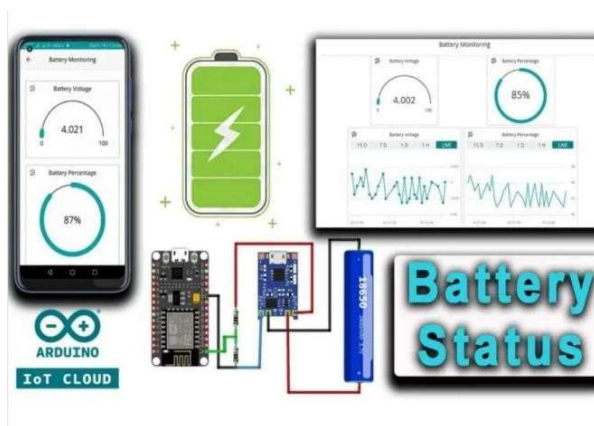

Fig 3: Battery Status Monitoring System
• Fig 3:	Battery Status Monitoring System